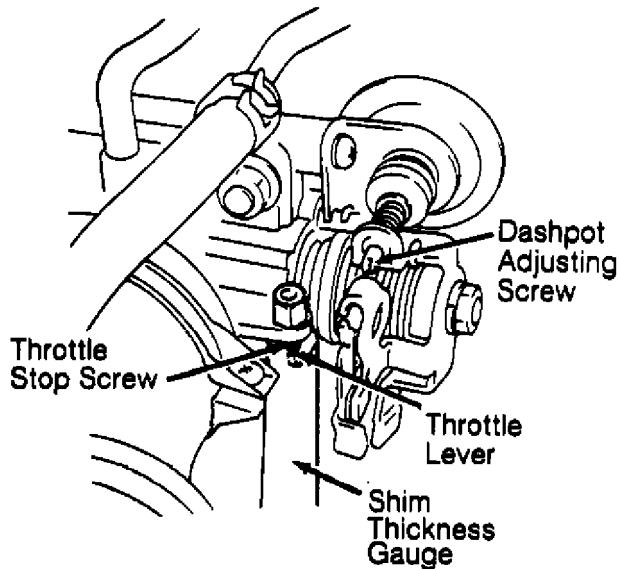

Fig. 13: Inserting Shim Thickness Gauge (Swift DOHC)
1) Unplug TPS connector, and loosen TPS mounting screws. Place a .025" (.63 mm) shim thickness gauge between throttle lever and throttle stop screw. See Fig. 13.